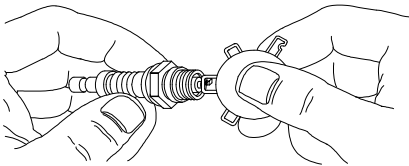

Figure 4-4. Spark Plug
3. See Figure 4-4. Inspect electrode gap with feeler gauge and reset spark plug gap to 0.028 - 0.031 in (0.70 - 0.80 mm).